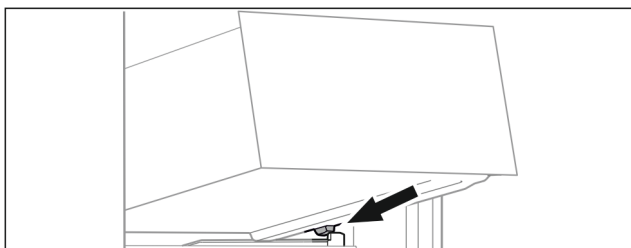

Fig. 85
- Place drawer at an angle behind the stoppers on the moulded rib. (see Fig. 85)